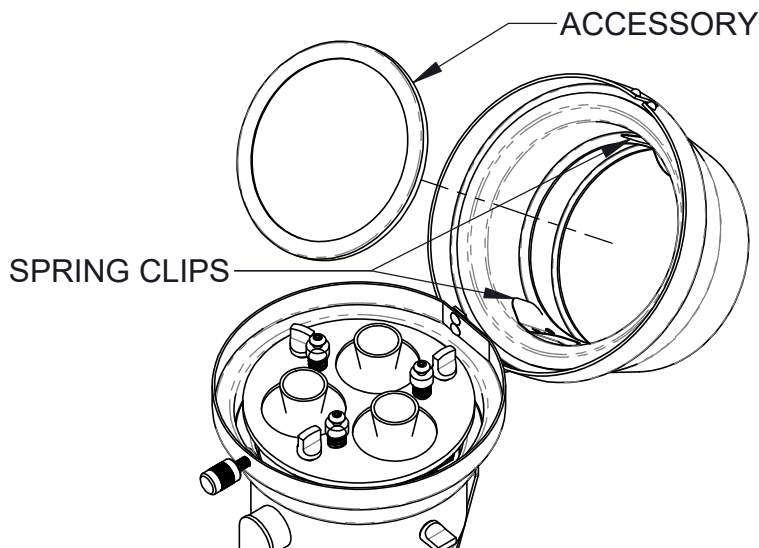

FIGURE 9. ACCESSORY BEING PLACED INTO ACCESSORY HOLDER
3. YOU CAN INSERT ANY "A" SIZE ACCESSORY INTO THE FRONT, VIA INTERNAL SPRING CLIPS (FIG. 9, 10). THE LP230 ACCESSORY HOLDER CAN HOLD UP TO THREE ACCESSORIES.